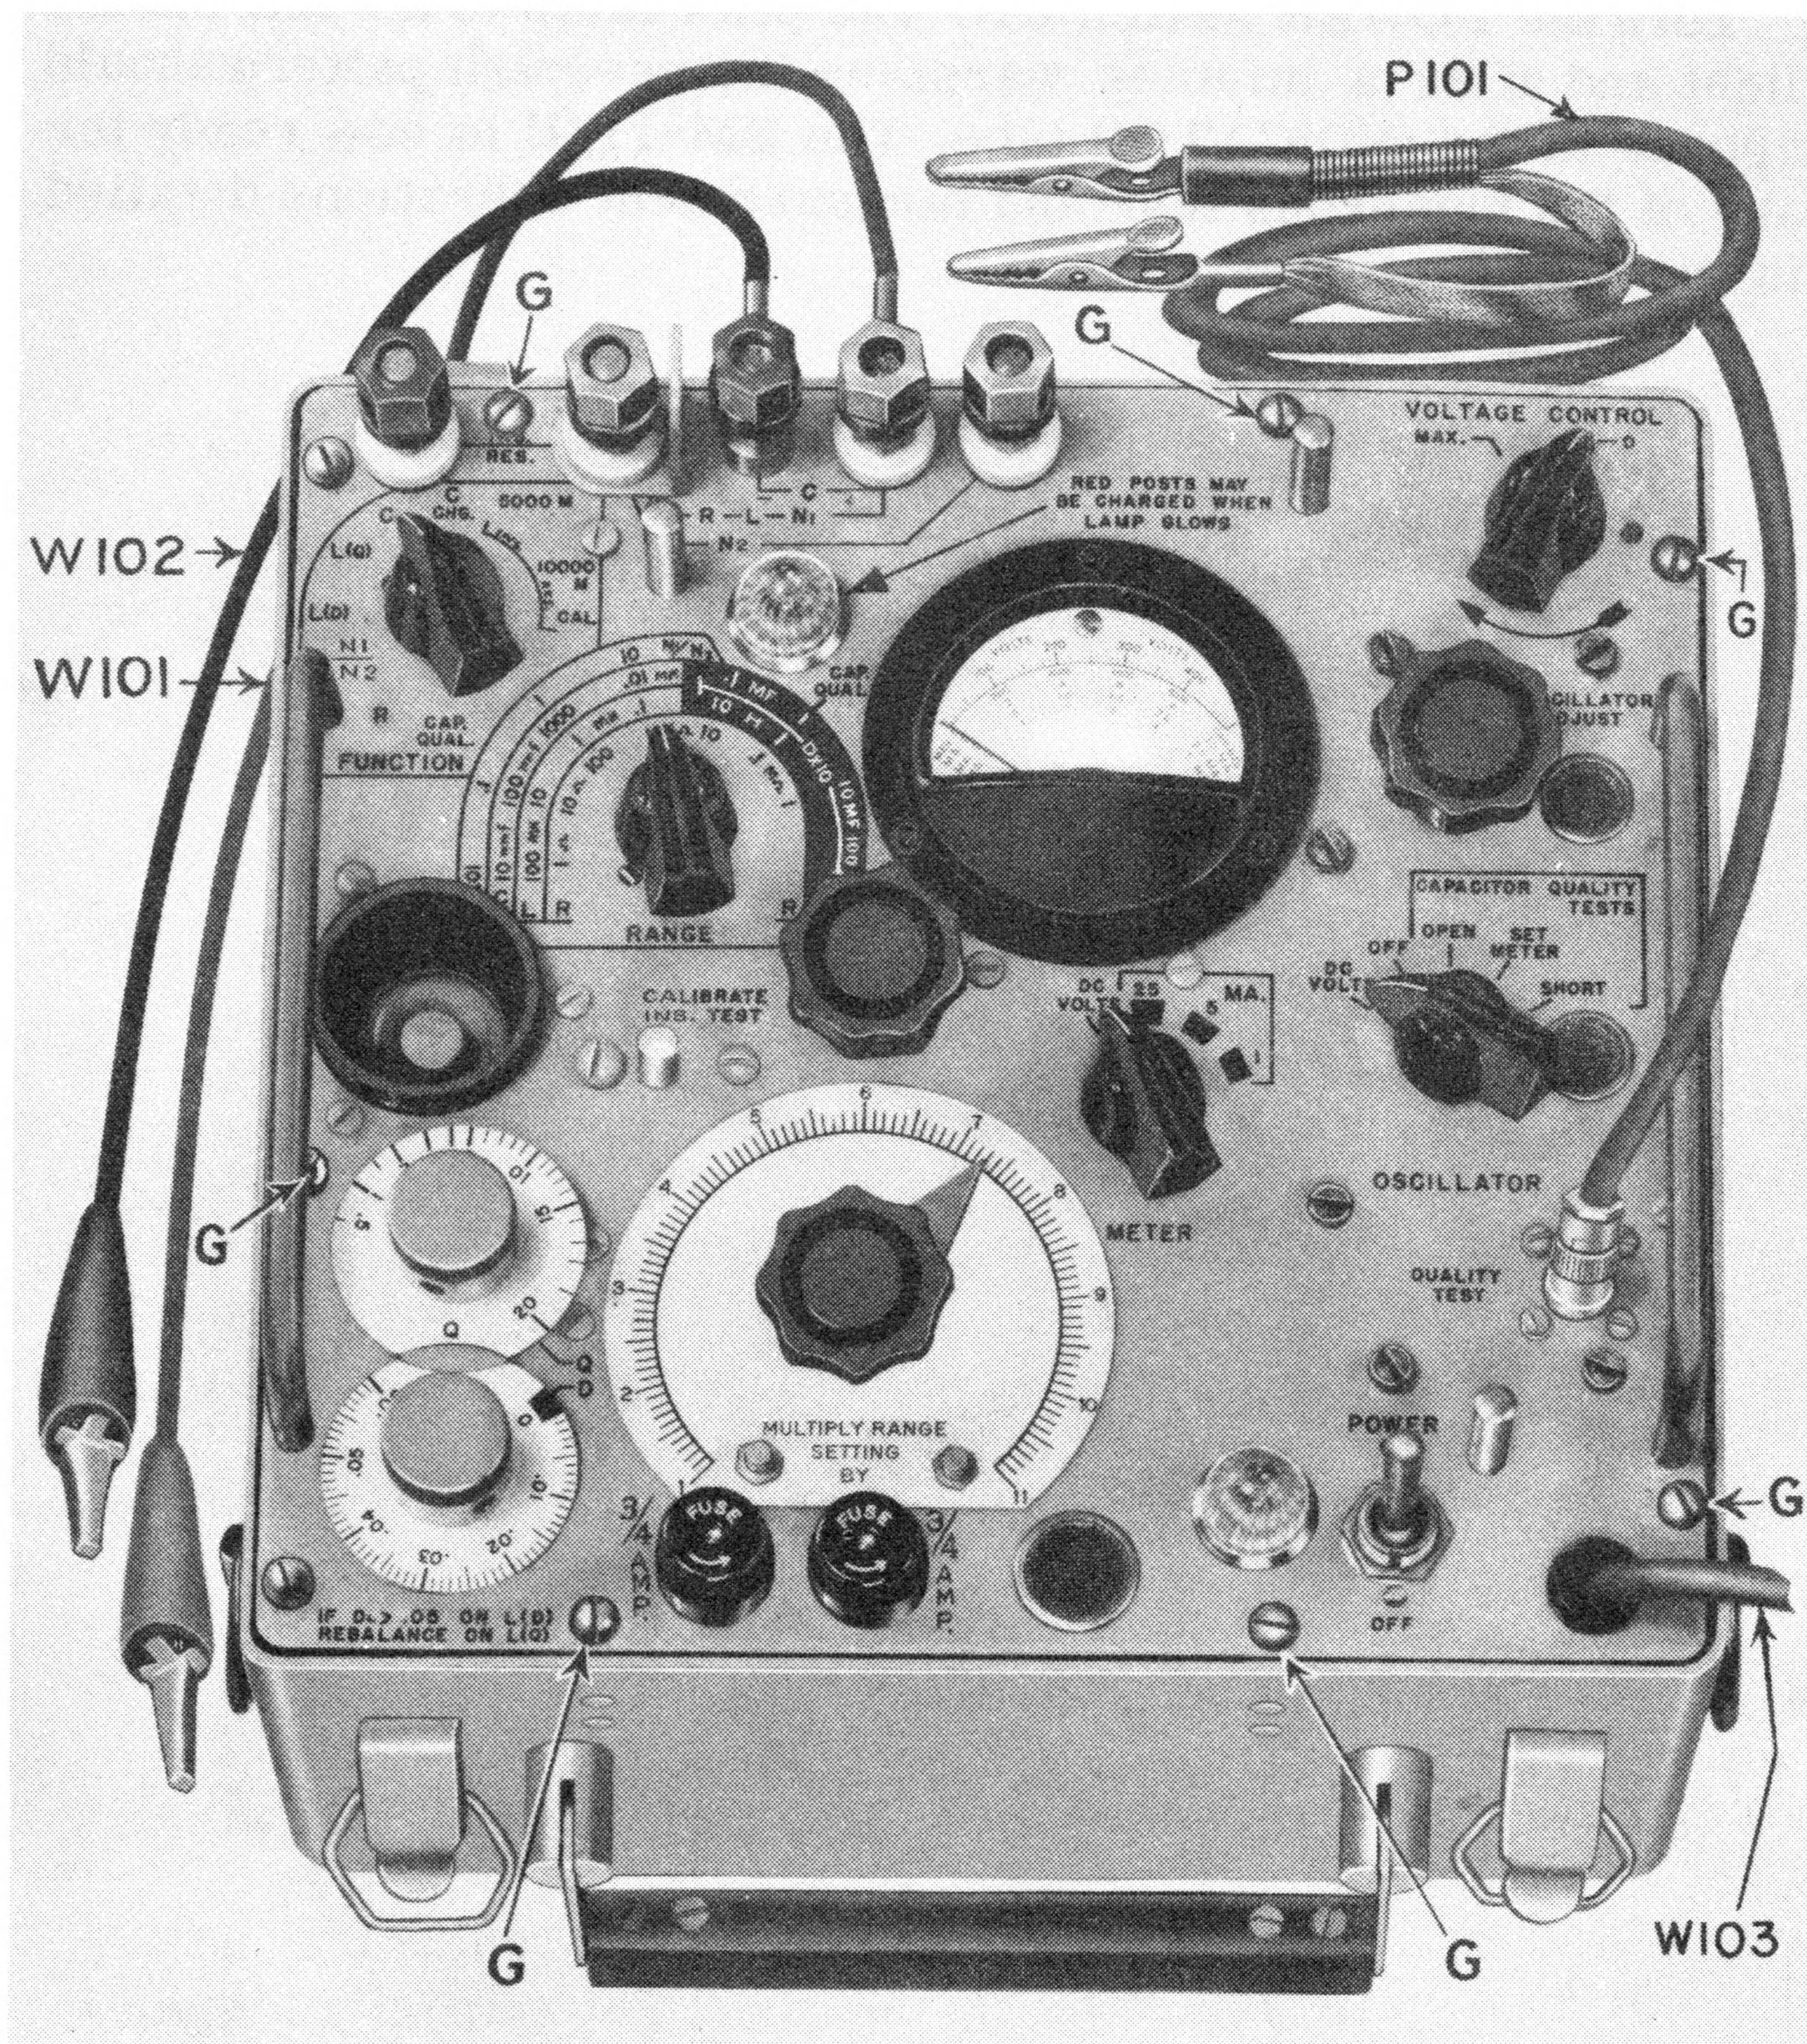

Figure 4-1. ZM/11U Bridge, Set up for Operation.
a. The tests and measurements of which the ZM-11/U Bridge is capable are numerous and of wide range so it would be well to become as familiar as possible with the panel and control layout as early as possible. Figure 4-1 shows a view of the panel and general appearance as set up for operation. The panel designations are necessarily abbreviated in many instances, consistent with the limited panel area available. These are now amplified with brief statements on what the various controls are for.